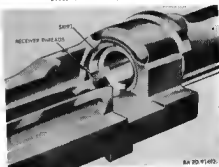

Figure 80. Breech end barrel showing new type skirt.
- (h) Barrels of current manufacture have been modified by the elimination of a portion of the skirt on the chamber end. In barrels of early manufacture, this skirt was extended around approximately two-thirds of the chamber end of the barrel and was thickened somewhat in its center section. As the thin section of the skirt served no useful purpose, it was eliminated and only the thickened portion remained. When looking into the breech end of the gun only the thickened portion remained. When looking into the breech end of the gun ahead of the bullet ramp, the thread of the receiver can be seen (Fig. 80). This is a normal condition.